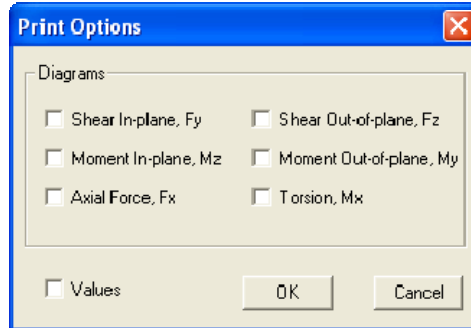

Figure 3-47 Print Options dialog box
Choosing the PRINT button displays the dialog box of Figure 3-47. You may print selected diagrams of the applicable result options (in-plane and out-of-plane moment and shear, axial force, or torsion) as well as their segmental values (at 11 locations along the member length). Choose OK to start printing or CANCEL to abort. The output is directed to the active printer.
- From the Analyze menu, select Group Results. The dialog box of Figure 3-47 appears.